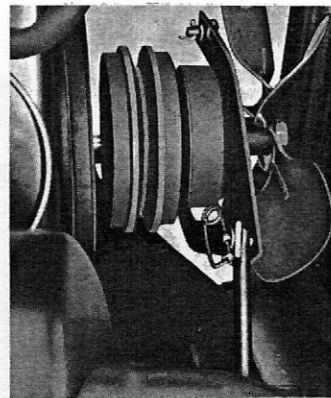

Figure 2. Attachment Drive Clutch
3. Install the "V" belt on the attachment drive clutch, Figure 2, and reconnect the linkage to the front of the control rod. Care must be exercised to avoid bending the fan blades.
2. Remove the safety pin and clevis pin which connect the tractor attachment drive clutch linkage to the control rod. See Figure 2.